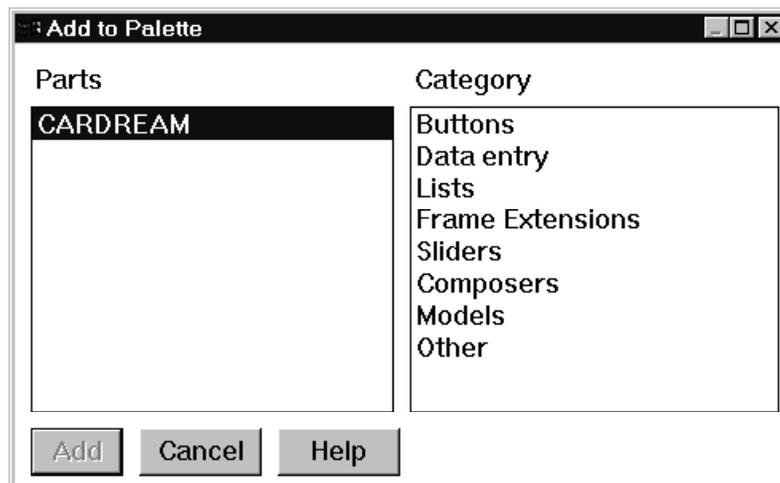

Figure 51. Add to Palette window
4. Select **Part**→**Add to palette**. Visual Builder displays the Add to Palette window, as shown in Figure 51.